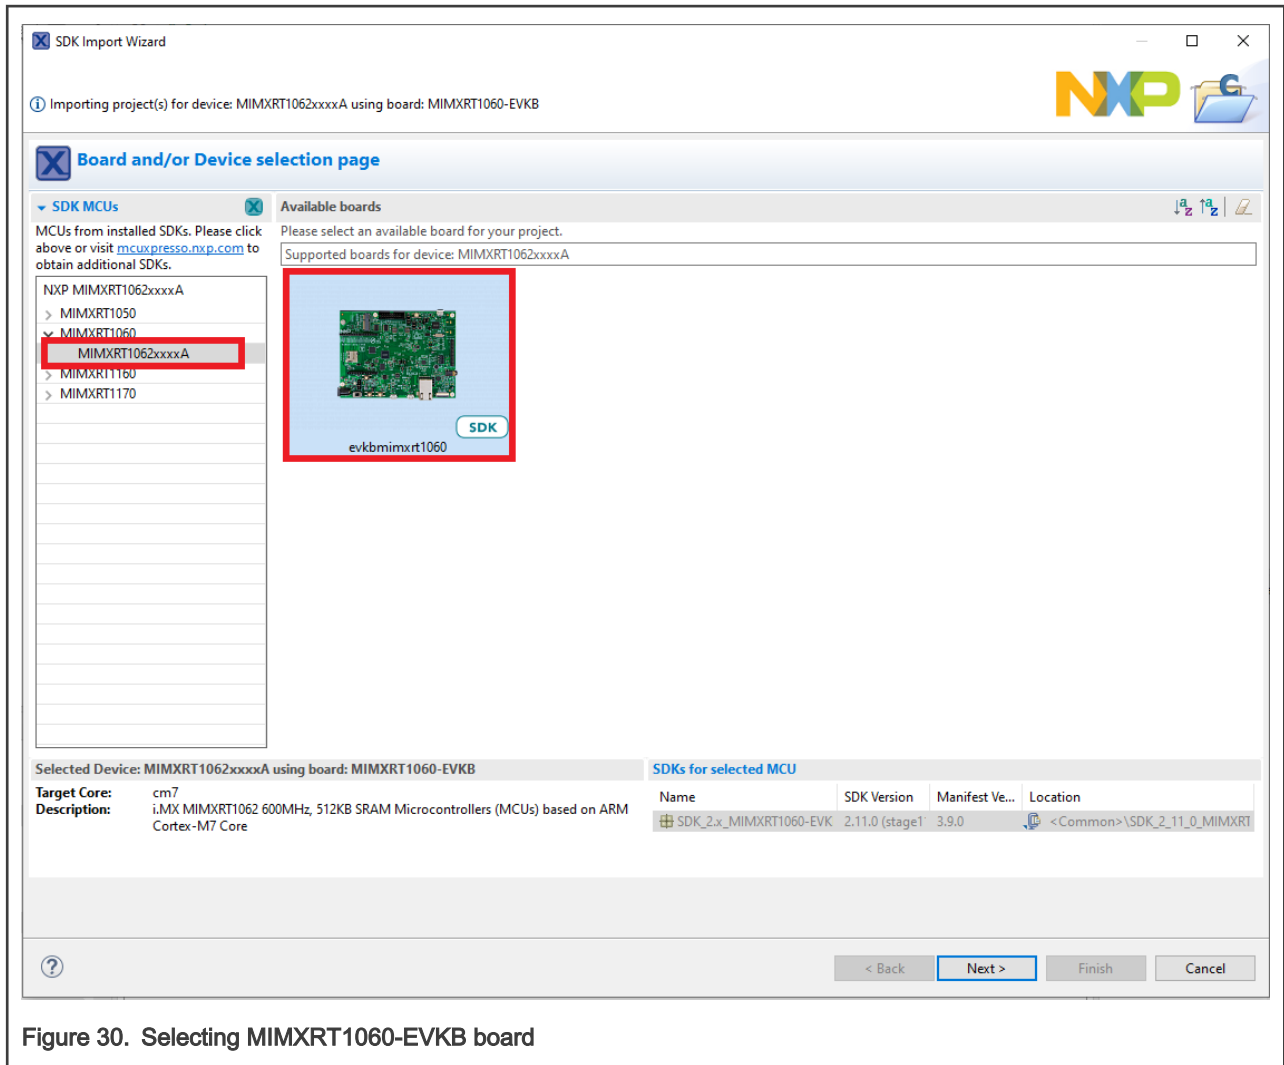

Figure 30. Selecting MIMXRT1060-EVKB board
- In the window that appears, expand the **MIMXRT1060** folder and select . Then, select **evkbmimxrt1060** and click **Next**, as shown in Figure 30.